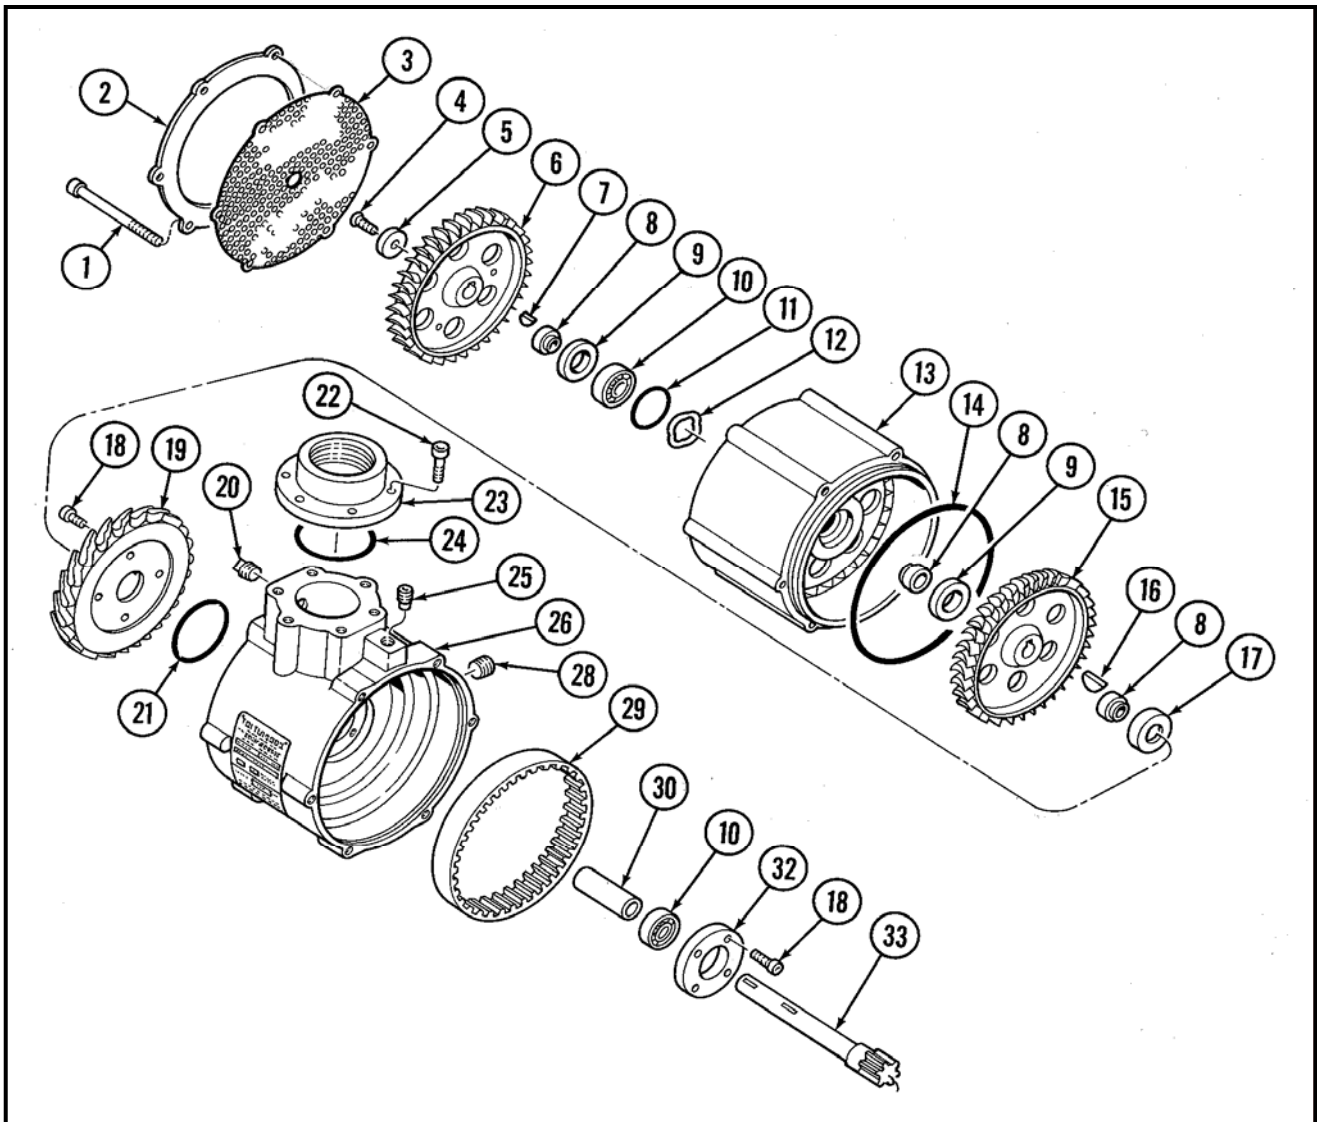

Figure 3. Turbine Housing Assembly
The Turbine housing assembly, refer to figure 3, consists of a stage one (15) and a stage two (6) turbine wheel mounted on sungear shaft (33). The front bearing (10) is secured by a retainer plate (32). The aft bearing is preloaded by wavy spring (12).